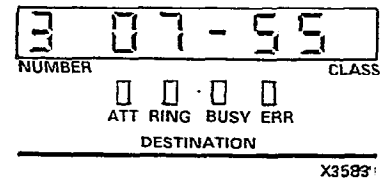

Figure 324-2
* DESTINATION display shows wake-up time (Figure 324-2)